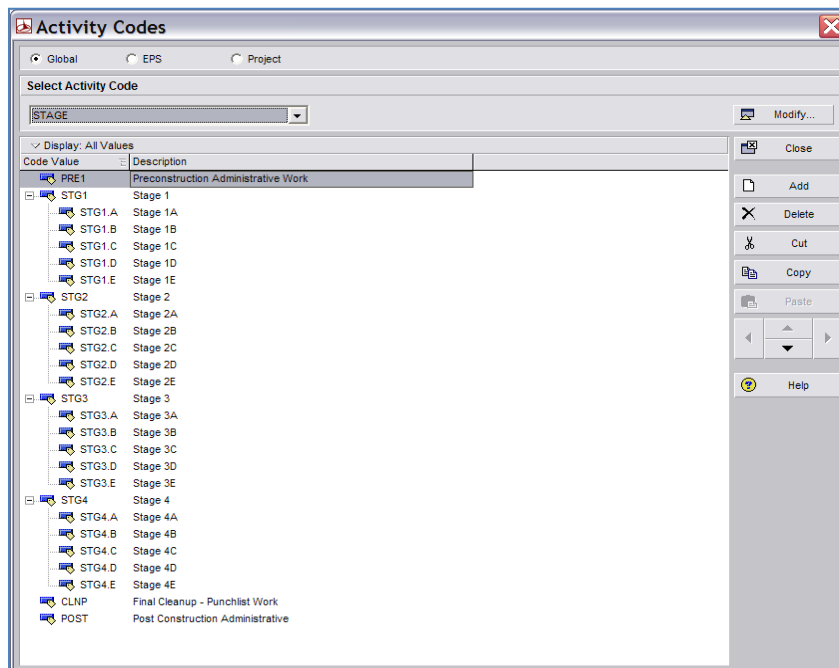

Figure 2
- xvi) **Activity Code Values** – Each Activity Code shall be broken down into various Activity Code Values that are then assigned to activities. For example, the Activity Code “Stage” shall include a hierarchal arrangement of Activity Code Values as shown below in Figure 2: